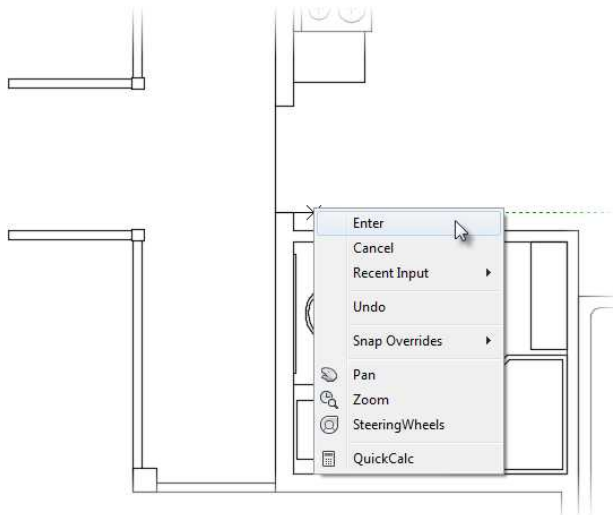

FIGURE 6.36: The right-click context menu for accessing recent and common commands
10. Right-click once to open a context menu near your cursor (see Figure 6.36), and then choose Enter from the contextual menu that displays.